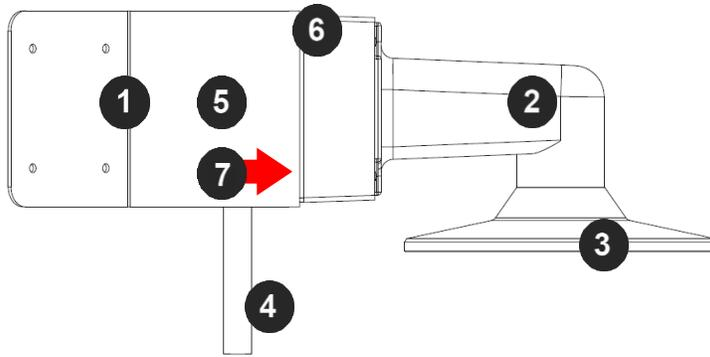

Figure 2: Attach corner mount adapter to exterior corner wall
6. Attach the Wall Mount Adapter (AV-WMJB-W) to the Corner Mount Adapter (AV-CRMA-W) as shown in Figure 2.